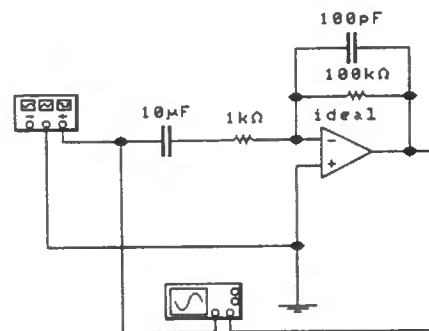

Fig. 5.24 Circuit for Assignment 5.2.
1. Connect the circuit shown in Fig. 5.24 with $C_1 = 10\mu\text{F}$, $R_1 = 1\text{k}\Omega$, $C_2 = 100\text{pF}$, and $R_2 = 100\text{k}\Omega$.